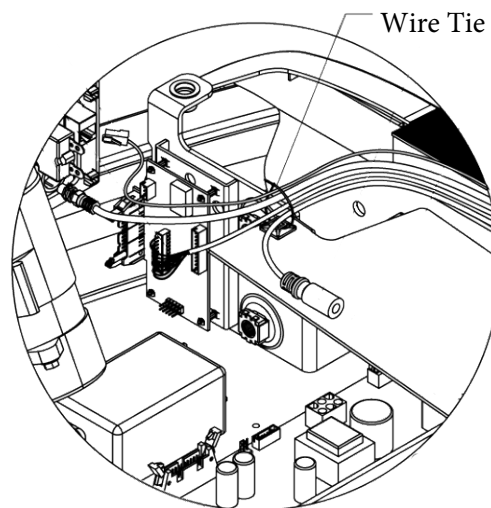

Fig 3-1-2
b) Continue to route cables as shown in Fig 3-1-2 to the right and secure with Wire Tie in reserved wire tie holder.